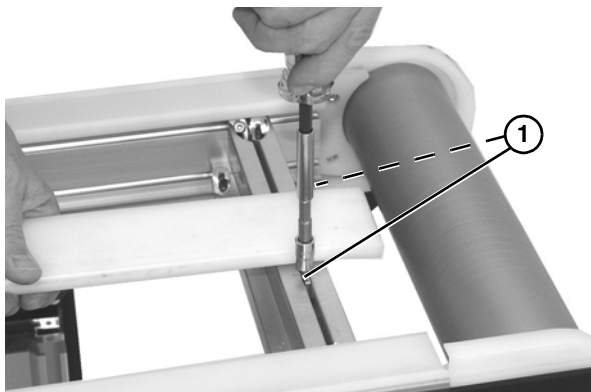

Figure 27
3. Remove two screws (**Figure 27, item 1**) from each clamp on center frame channel.